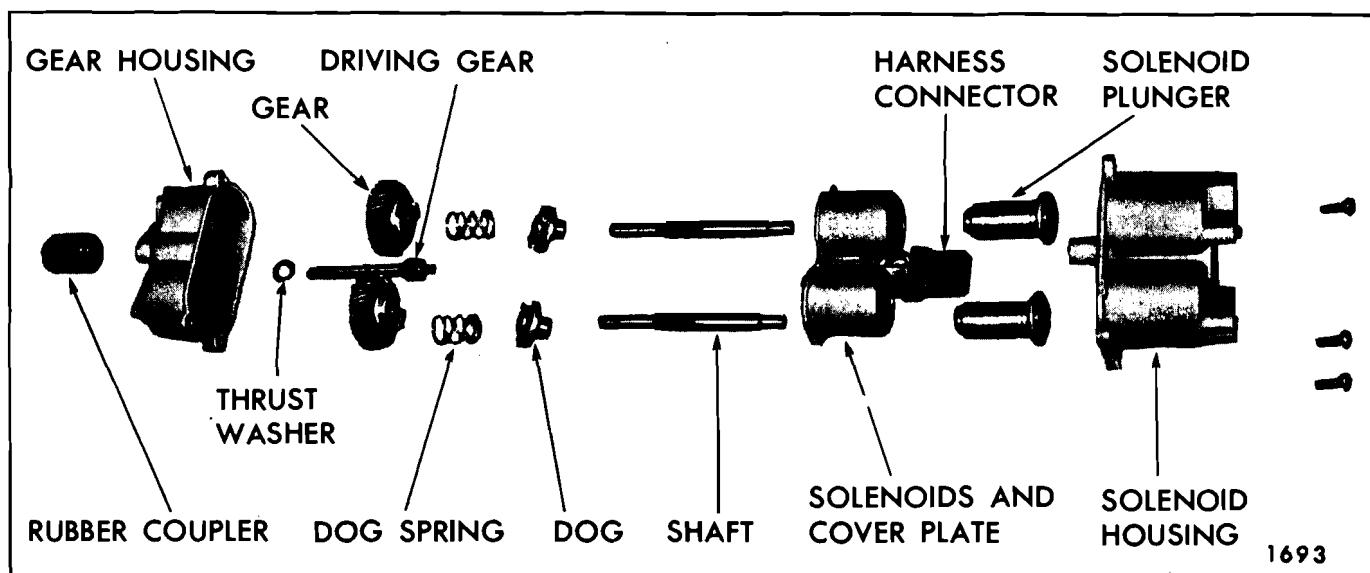

Fig. 15-14—Four-Way Seat Adjuster Transmission
2. Remove screws securing gear and solenoid housings together; then, carefully separate housings and remove component parts of transmission assembly (Fig. 15-14).